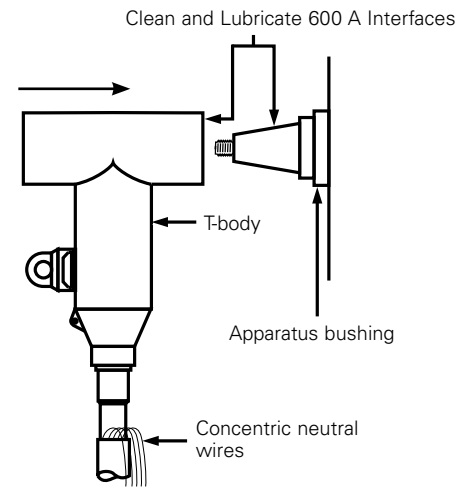

Figure 26. Line illustration of Deadbreak connector installation onto apparatus bushing.
- Push T-body onto apparatus bushing ensuring that the stud on the bushing passes through the hole of the compression connector. See Figure 26.